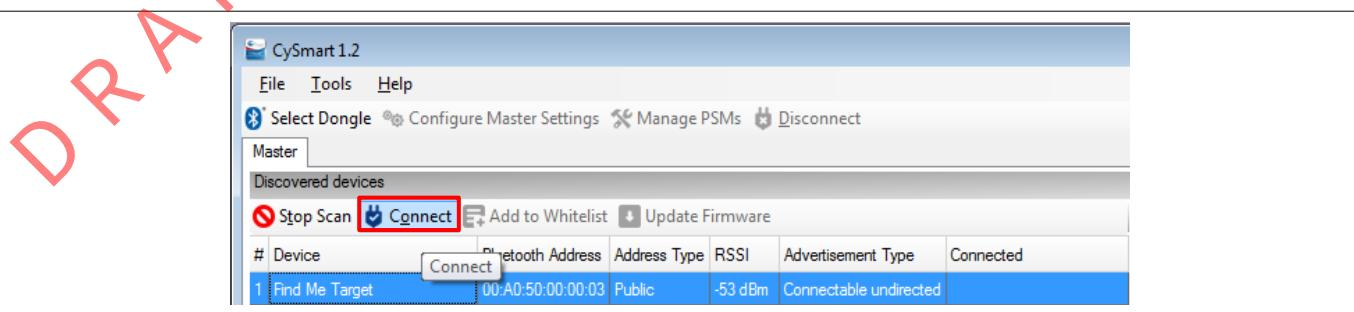

Figure 119 CySmart device connection
- Select **Find Me Target** and click **Connect** to establish a Bluetooth® LE connection between the CySmart Host Emulation Tool and your device, as shown in Figure 119